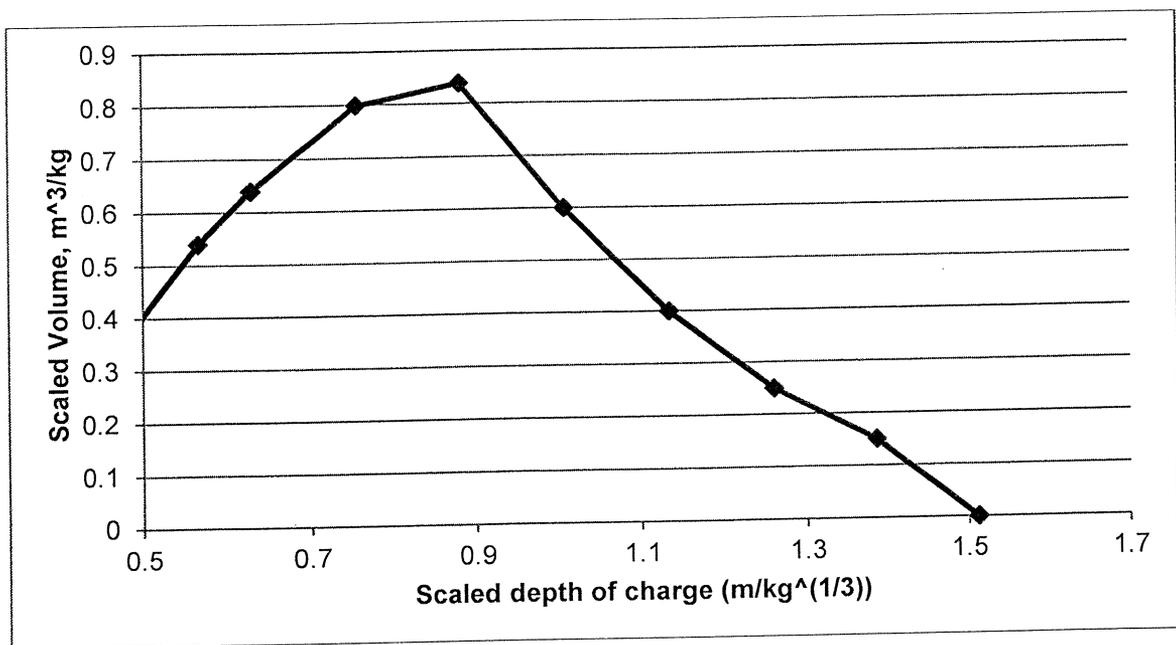

Figure 2. Cratering curve
- a. In a limestone quarry you are conducting blasting with boreholes having a diameter of 102 mm. The bench has a height of 12 m and the blast is loaded with emulsion, having density of 1.25 g/cm^3 . Figure 2 shows the results of cratering tests conducted in a similar material. The quarry wants to minimize flyrock, as a public road is at a distance of 300 m away, while controlling fragmentation. Ideally they want their 80% passing size to be around 50 cm. These objectives are currently achieved by trial and error using burden, spacing and collar length of 3 m, 4 m and 2.5 m respectively. To increase productivity the quarry wants to use holes with a diameter of 165 mm. Recommend appropriate pattern dimensions, blasthole loading and timing.